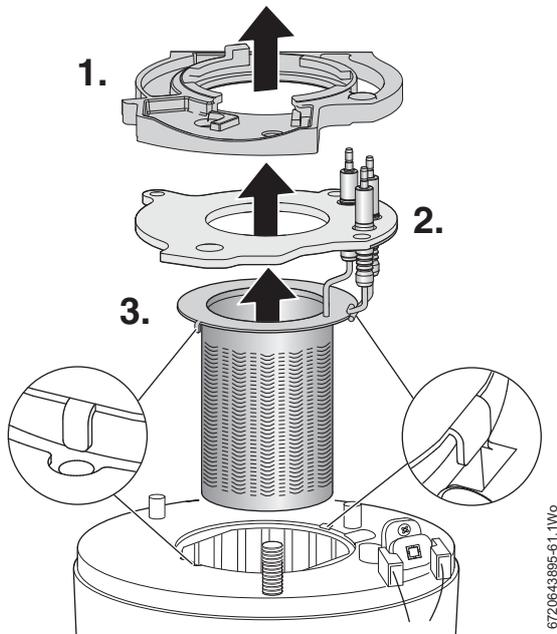

Fig. 104 Electrode assembly and burner
Refer to figure 104.
- ▶ Ensure that burner tabs, as shown in figure 104, fit correctly their respective locations.